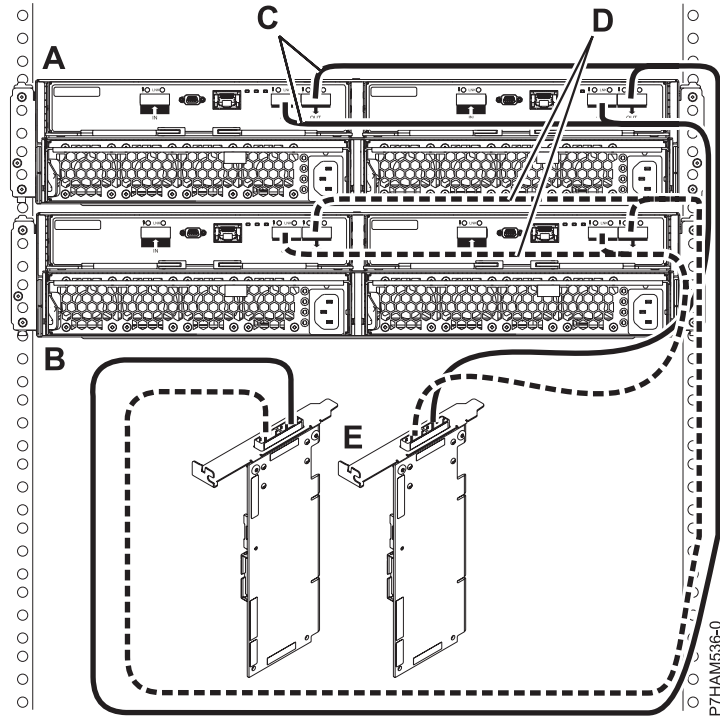

Figure 30. Mode 1 connection of two 58/87 disk drive enclosures by using YO cables to a SAS adapter pair
- k. Perform the mode 1 connection of two 58/87 disk drive enclosures (**A and B**) by using YO cables (**C and D**) to a SAS adapter pair (**E**) as shown in Figure 30 on page 27.